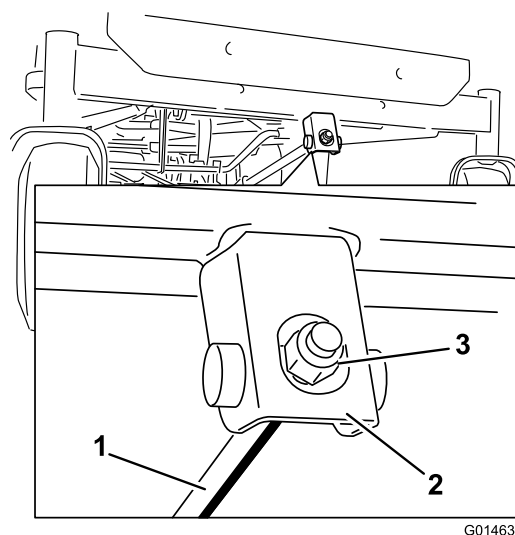

Figure 56
6. To adjust the front-to-rear blade slope, rotate the adjustment nut in the front of the mower (Figure 56).